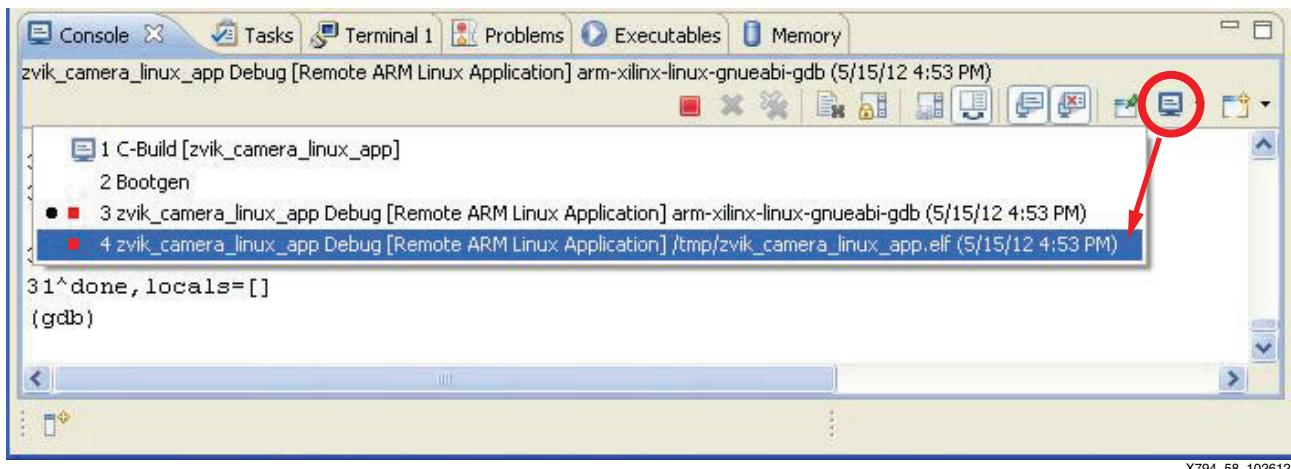

Figure 58: Display Selected Console
12. Click the display selected console button, and select the zvik_camera_linux_app.elf entry, as shown in Figure 58.